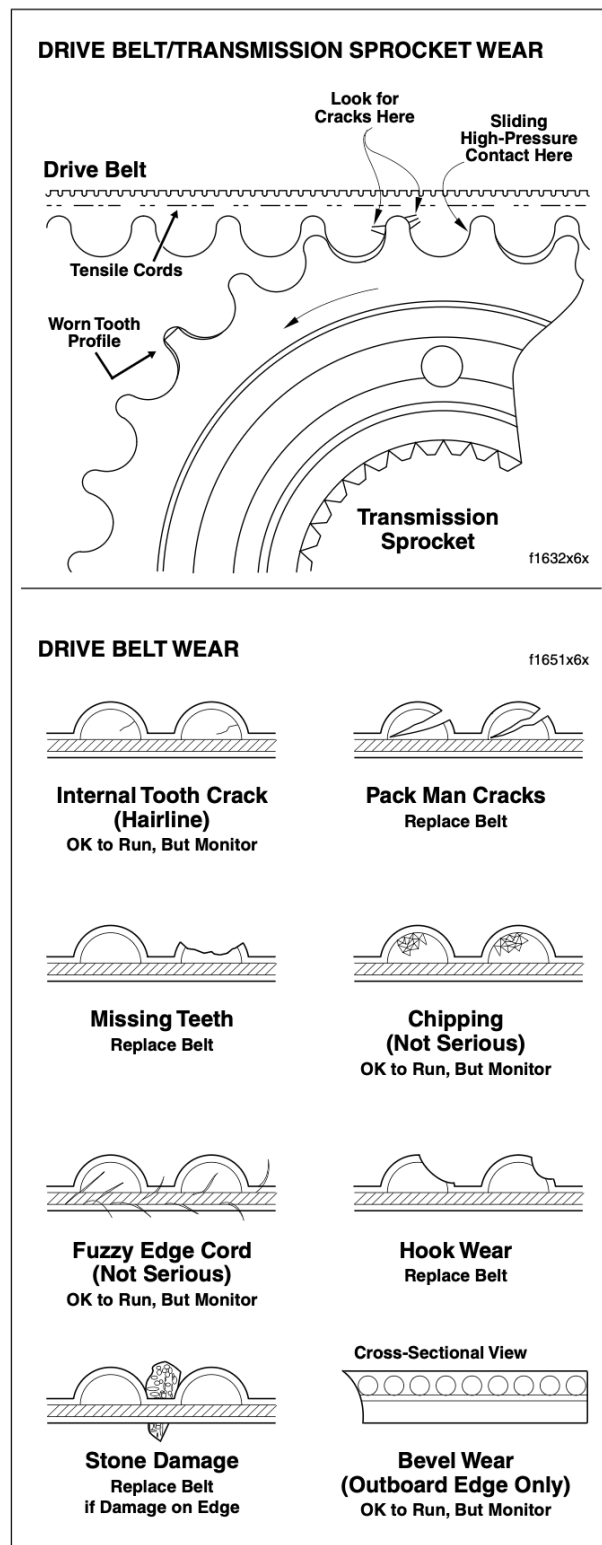

Figure 6-7. Drive Belt/Transmission Sprocket Wear
4. On the inside of the belt, inspect the roots of the belt teeth to see if the tensile cords are exposed. See upper frame of Figure 6-7. The tensile cords are covered by a layer of nylon facing and another layer of polyethylene. Once these layers are worn through, the tensile cords become visible. Visible tensile cords are an indication that the transmission sprocket tooth tip diameter is severely worn. Furthermore, belt failure is imminent, since the tooth tips will continue to scratch away at the tensile cords until the belt is completely worn through.
5. Look for signs of cracking at the base of the belt teeth where contact may be made with the "corners" of worn transmission sprocket teeth. See upper frame of Figure 6-7. Replace the belt if cracking is evident.
6. For common types of belt wear and damage, see lower frame of Figure 6-7.